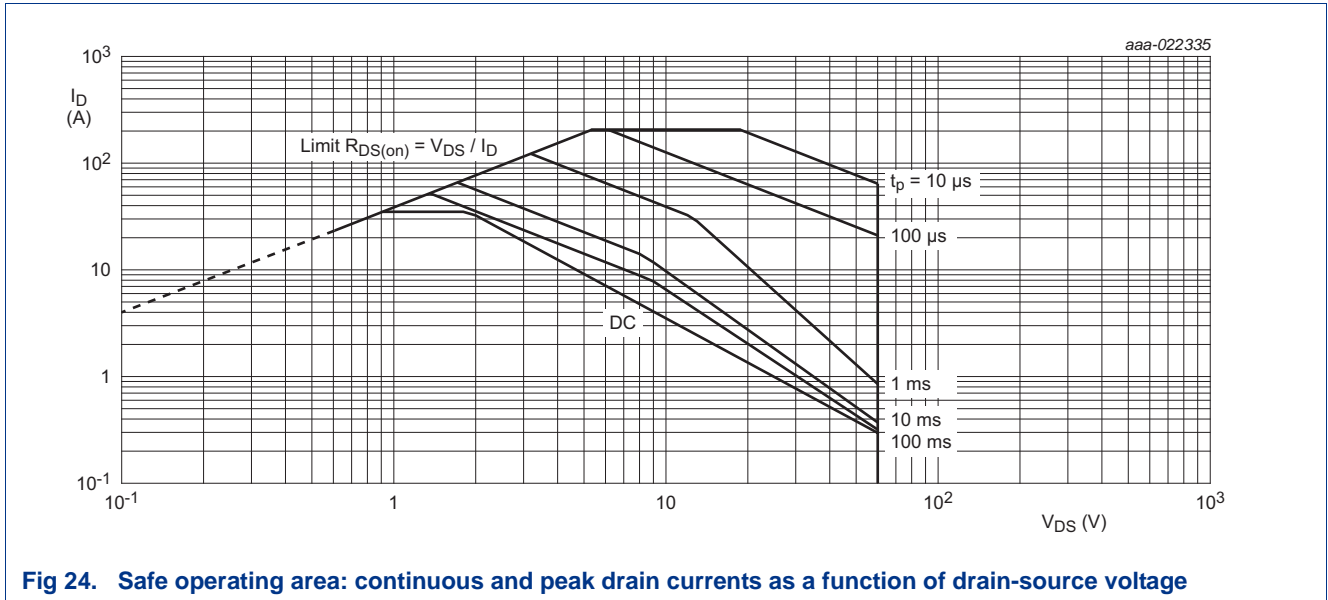

Fig 24. Safe operating area: continuous and peak drain currents as a function of drain-source voltage
13.9 Q: How is the maximum permissible drain current estimated, at the point of $V_{DS} = 0.1$ V, from the SOA curve of the BUK9K12-60E shown in Figure 24? Some manufacturers described down to the V_{DS} value in their SOA curves.